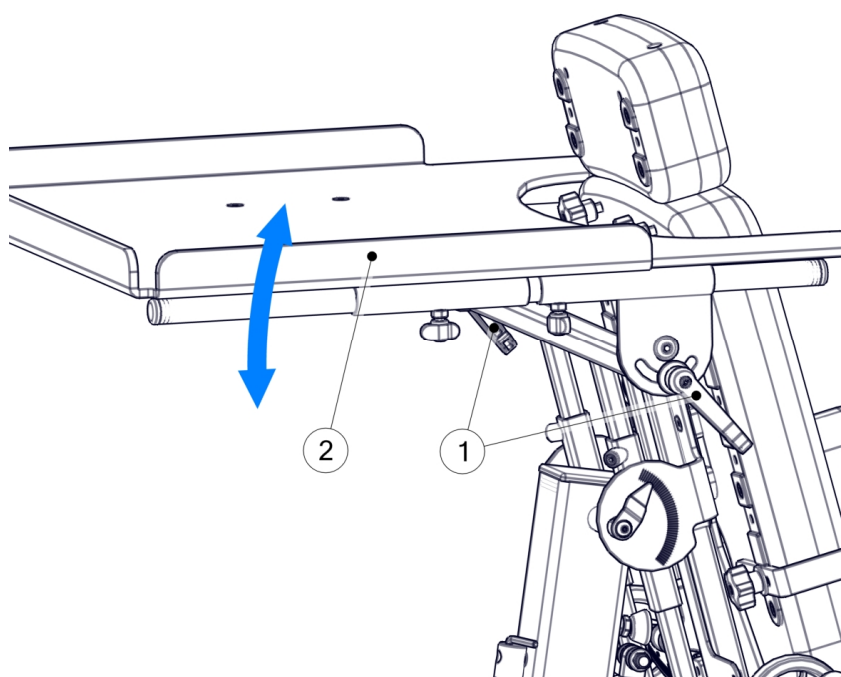

Fig. 19
In order to adjust the angle of the tray (Fig. 19), it is essential to loosen the knobs (1) on both sides of the tray (2) and then adjust the angle of the tray, retighten the knobs (1) and hence block the tray in its position.